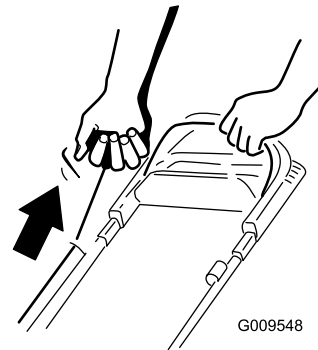

**Figure 17**
1. Hold the blade-control bar against the handle (Figure 17).